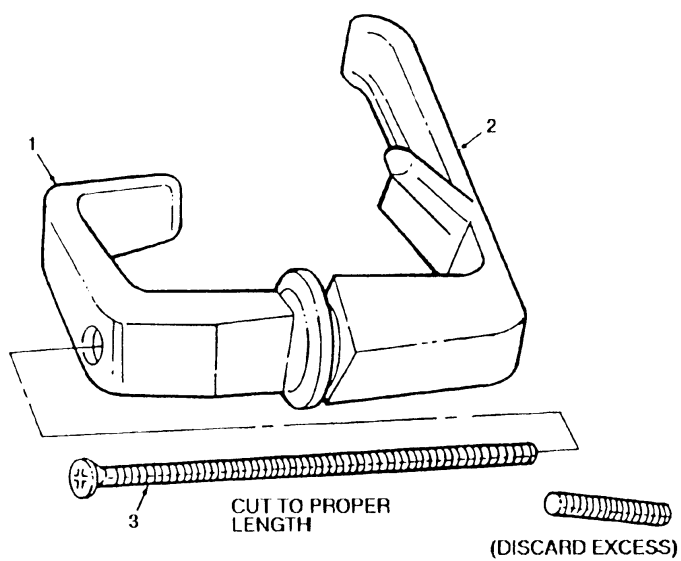

FIGURE 3-16
11. Remove screw (3) from Inner (2) and outer (1) door handles and cut screw (3) to measurement recorded In step 10. (see figure 3-16)